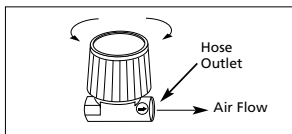

Figure 5
- NOTE: Ensure air flow indicator arrow on regulator body points away from compressor (See Fig. 5).